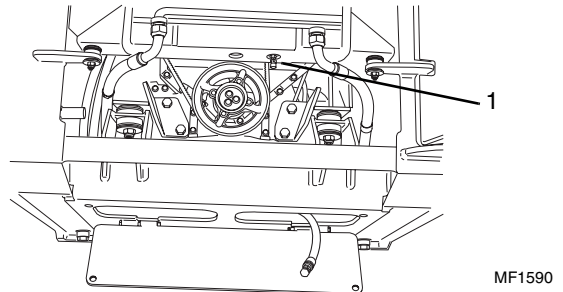

Figure 9-50 Radiator Petcock
9. Place a container under the radiator drain valve (Fig. 9-50, 1).
11. Open the drain valve (Fig. 9-50, 1) and allow approximately 1 gal (3,8 liters) of coolant to drain into the container. Close the drain valve (1).